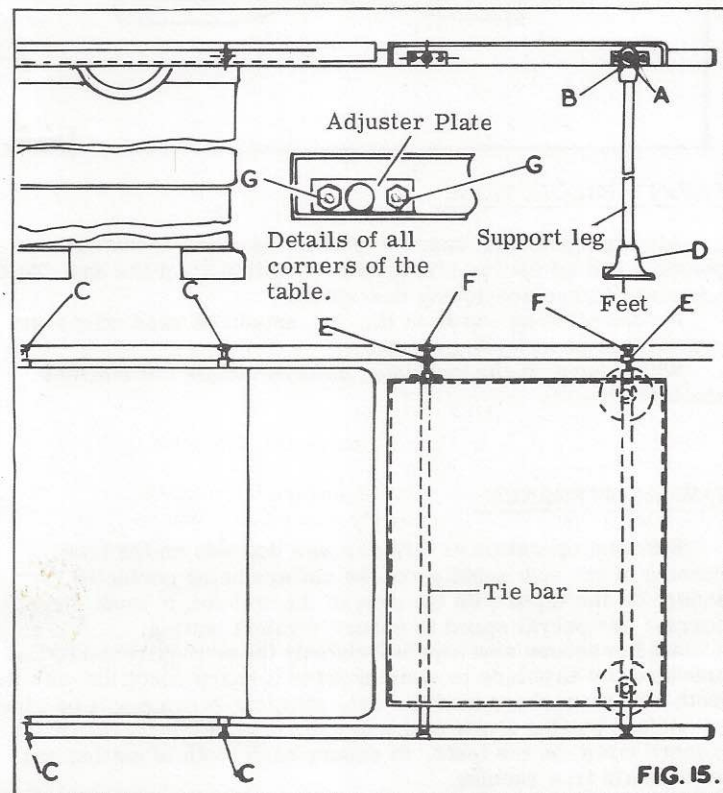

FIG. 15.
A sheet metal extension table can be supplied to fit to the right of the saw as shown in fig. 15. This table increases the capacity to the right of the saw to 50" (1270 mm) between the saw and rip fence.
1. Remove parts from parcel and remove protective coating by applying a cloth soaked in paraffin, turpentine or other solvent, and assemble as shown in fig. 15.
3. Centralise the table with the main table of the machine. Loosen hollow set screw "A" in fig. 15 and keep filboes "B" pressed against the inside of the extension table. The whole assembly can slide along the tie bars. When central with the main table re-tighten hollow set screw "A".